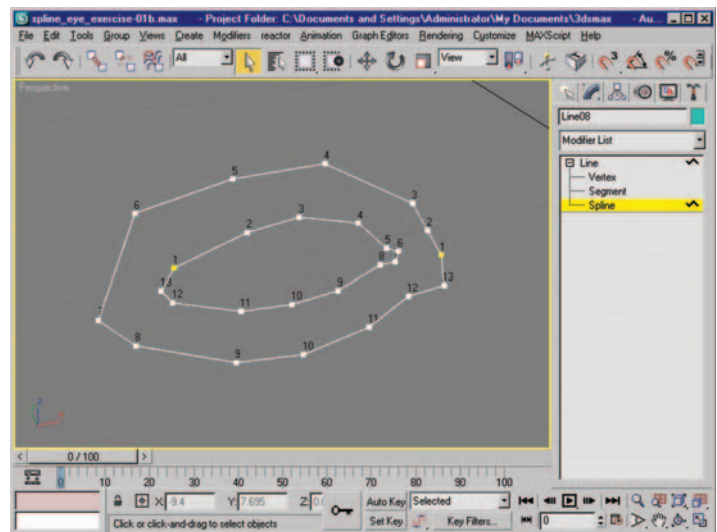

Figure 2.11 Second spline created using the same vertex count.
4. Let's create the second loop. It should be roughly the shape of a skull's eye socket, so I have approximated the shape of the brow ridge and cheekbone areas. The completed loop has another 13 points and a closed spline for me to work with (Figure 2.11). In my example I used 13 points to create the first spline shape; as I created the next spline for our network, I used the same amount of points as in the initial shape. Keeping the point count the same makes the process of connecting the spline loops we are creating much easier, by eliminating the need to Refine the splines. As you lay out these splines, visualize the shapes that you are trying to mimic. You can always look at a reference if you feel it is necessary. This is a basic demonstration, so I am modeling without a reference.